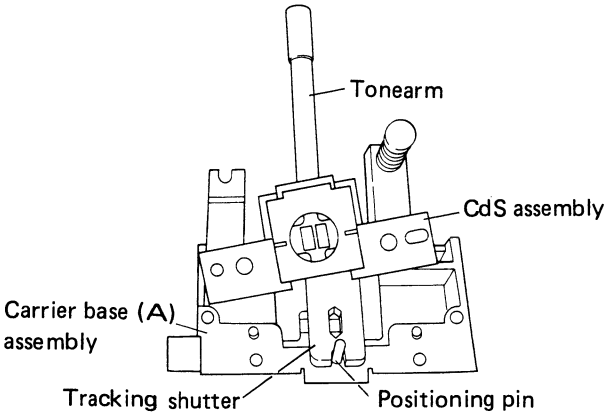

Fig. 3-9 Tracking shutter mounting 1
- 5. Sever the carrier base (A) ass'y positioning pin with a pair of nippers (Fig. 3-9).